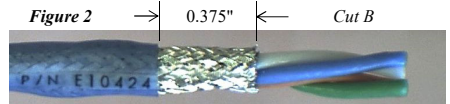
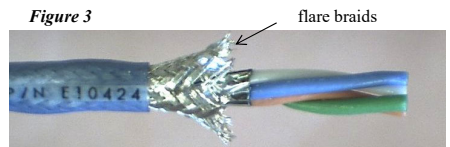

Figure 2
Figure 3
- 3) Make Cut B @ .375" from Cut A, through the jacket (Fig. 2). Do Not cut into or nick wire braids. Remove jacket, and moderately flare the ends of the braids, to allow for installation of the inner ferrule (Fig. 3). Leave the foil intact.